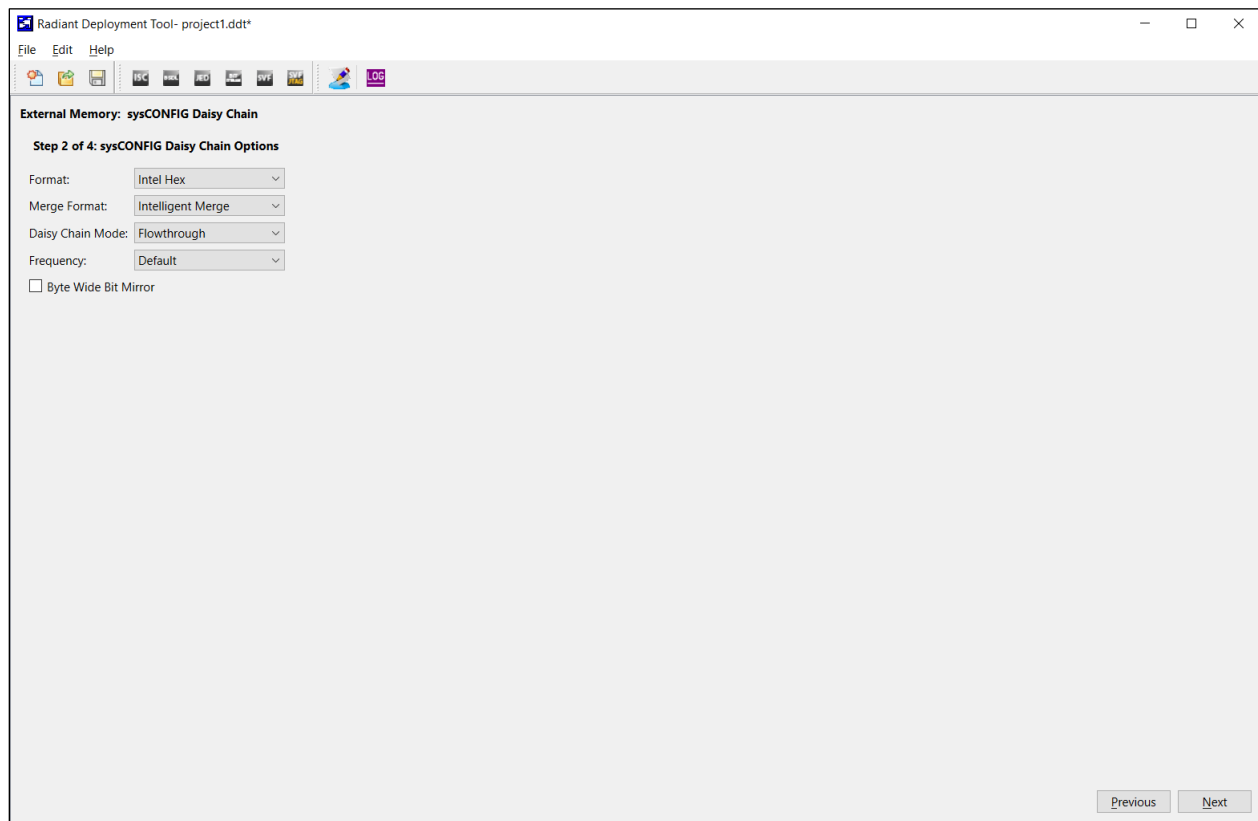

Figure 9.3. sysCONFIG Daisy Chain Options Window
Step 2 of 4: sysCONFIG Daisy Chain Options window (Figure 9.3)